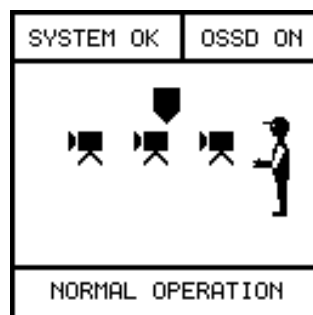

Fig. 7: Display in back gauge mode on horizontal tools of tool class 1
- ▶ The rear protected field ends at the back with the rear bending line. With these tools it isn't used for protection against reaching behind the system, but it does also safeguard the immediate danger zone below the tool. As such it is always active in the reduced protected field modes. Back gauge mode is not possible on these tools. This can be seen on the display; the camera symbol for the rear protected field remains active (see Fig. 7). However, back gauge mode is not actually required on these tools, as the protected field ends at the back with the tool.